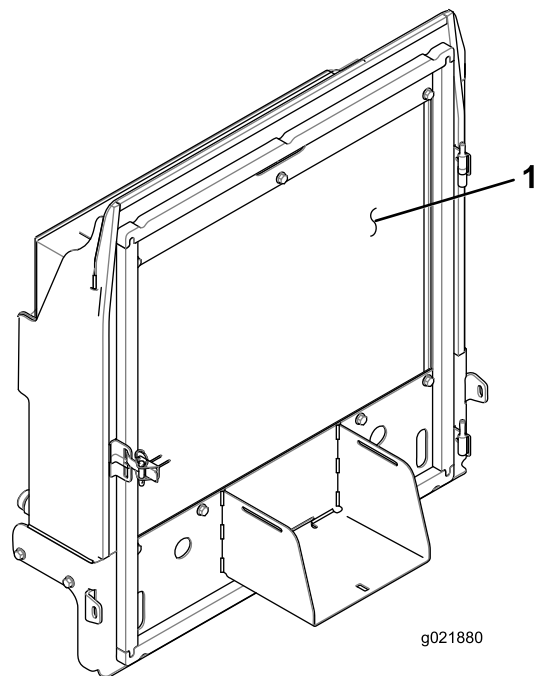

Figure 96
4. Thoroughly clean both sides of the radiator/oil cooler with compressed air (Figure 96).